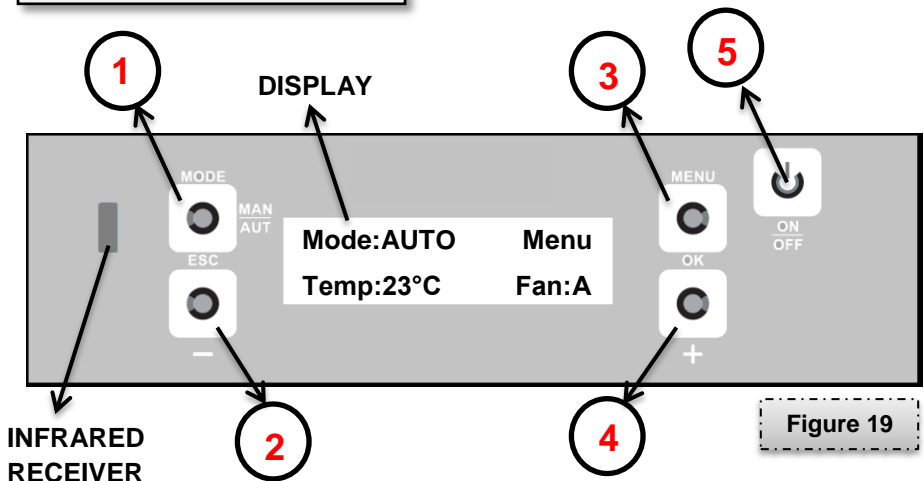

Figure 19
NOTE: All explanations hereinafter will refer to the buttons on this *Figure 19*.
The remote control allows you to regulate the heating power, speed of warm air ventilator and stove activation and deactivation. When used, the remote control must ALWAYS be directed toward the infrared receiver on the control panel (figure 19).
The stove is **turned ON** by pressing the **ON/OFF** key on the control panel for the duration of 2 seconds (key 5 – figure 19) or by pressing key 1 (ON) on the remote control. The control panel will produce an audio signal and the screen will display the **IGNITION** option.